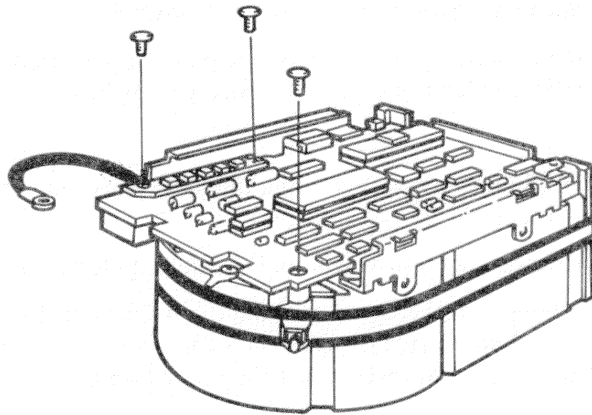

Figure 6-11 Removing the Phillips Screws from Heatsink
5. Remove the three phillips screws from the heatsink, grounding strip, and the corner opposite the heatsink. (Figure 6-11)